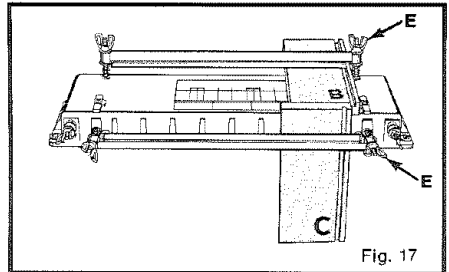

Fig. 17
You are now ready to rout your second dovetail joint. Do so by repeating the above procedure with boards (C) and (B) positioned against the right stops. See Figure 17. Insert board (C) between front clamping bar and front surface of dovetail base with bottom edge toward the right 2 way stop. Temporarily clamp board (C) "inside-out" to the right front of the fixture so that it extends above the base. This will assist in the proper positioning of board (B).